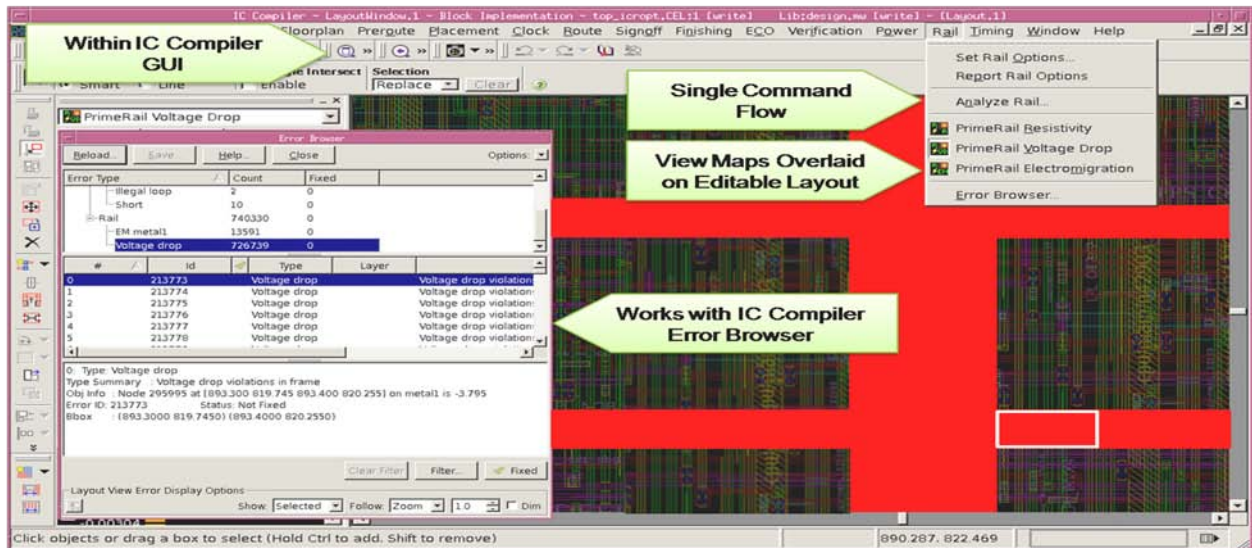

Figure 3: The Integrated Rail and Place and Route Environment
Figure 4 shows the static EM analysis flow in IC Compiler. Electromigration (EM) is the motion of atoms in response to the electron “wind”, i.e., momentum transfer with the electrons pushing the atoms. This can eventually cause opens or shorts and long term deterioration of the wire’s electrical characteristics. EM analysis and fixing helps prevent reliability problems caused by any possible metal migration and thermal expansion failures. In-Design Rail Analysis identifies EM violations for a power and ground net or a supply net. One way PrimeRail uses to report EM issues is through a visual display of a colored range of EM values overlaid on the physical supply nets; this is commonly referred to as an EM map. EM maps can be directly viewed in IC Compiler, as illustrated in Figure 3. Another way is with an error cell which contains EM violations and a text report for fixing suggestions. EM violations are available in IC Compiler Error Browser, which also includes In-Design Rail Guidance. In-Design Rail Guidance can be used to address any possible violations on the editable layout in IC Compiler. After any EM-based design modifications are completed inside of IC Compiler, users should iterate this EM analysis process with In-Design Rail Analysis to ensure that all the EM violations are handled. Users can also use In-Design Physical Verification to confirm the fixes are DRC clean.